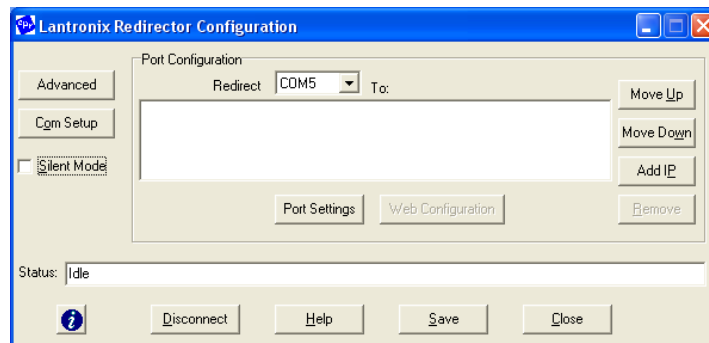

Figure 6.5 – COM Port Redirector Configuration Window
- a. Click the **Start** button in the Windows Taskbar, point to **All Programs, Lantronix, Redirector**, and click **Configuration**. The **COM Port Redirector Configuration** window appears (Figure 6.5).
- c. Click all the logical ports to which the PC will be redirected. A checkmark appears next to each logical port selected. Each port selected will be available from the **Redirect To** drop-down list in the COM Port Redirector Configuration window (Figure 6.5).